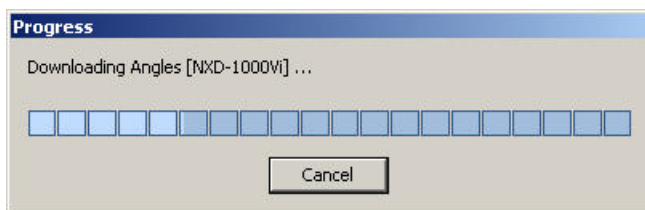

FIG. 290 Progress bar
6. The progress of the Download/Install operation is indicated in the Progress bar (FIG. 290):